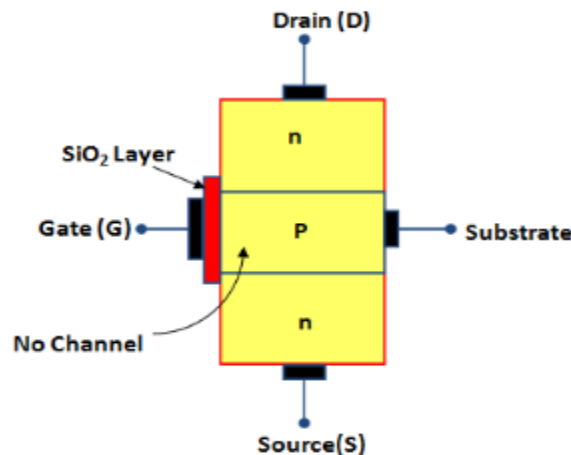

Fig. 4.21 Construction of n-channel E-MOSFET
- Fig.4.21 shows the constructional details of n-channel E-MOSFET.